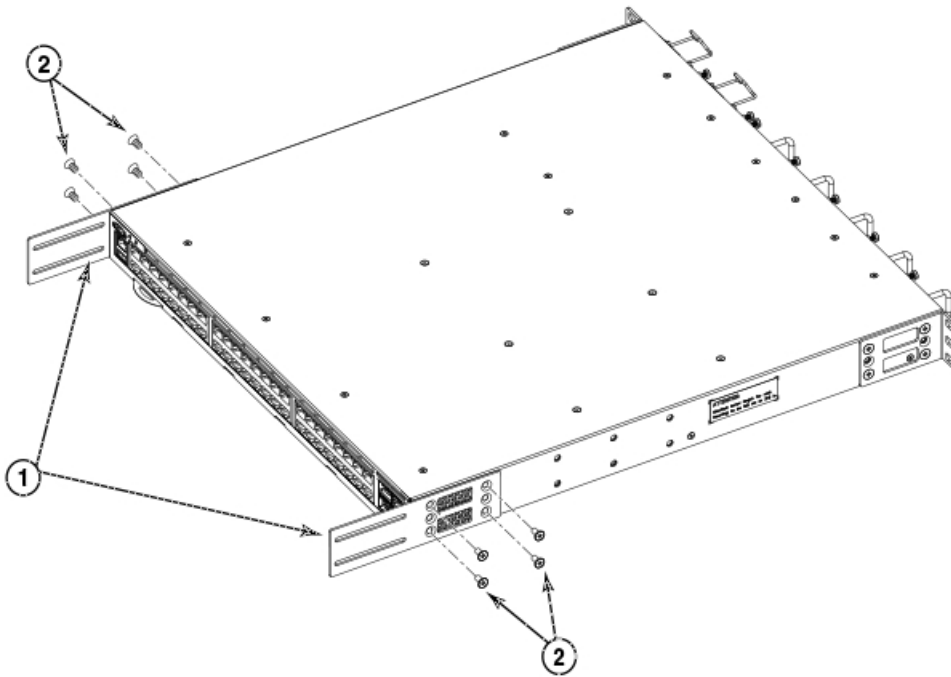

Figure 10. Attaching the bracket extensions to the device
2. Position the right extension along the side of the device as shown in Figure 10 on page 24.